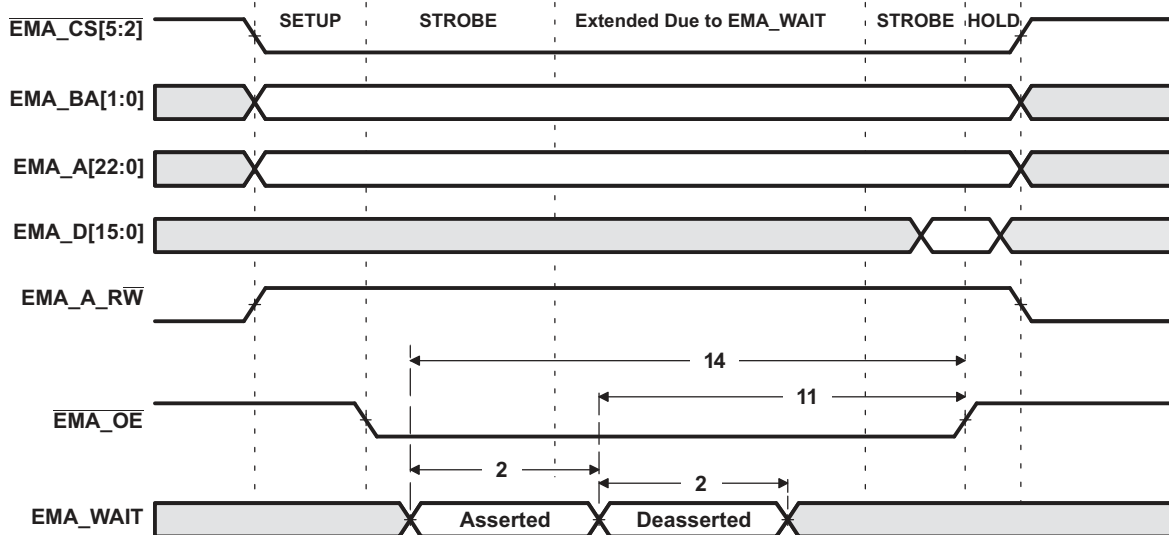
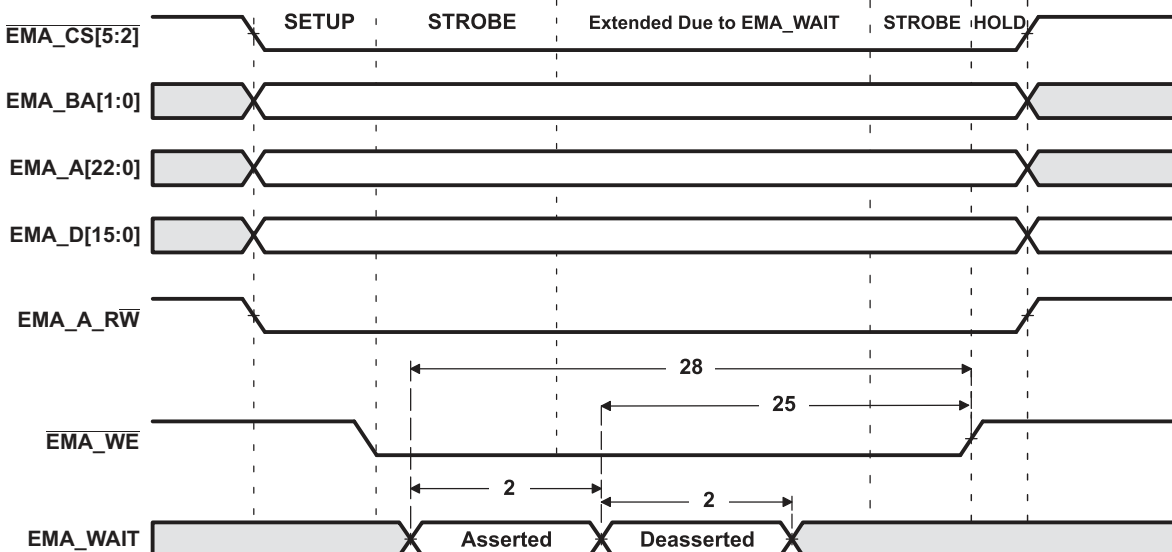

Figure 6-16. EMA\_WAIT Read Timing Requirements
Figure 6-17. EMA\_WAIT Write Timing Requirements
(1) E = EMA\_CLK period or in ns. EMA\_CLK is selected either as SYSCLK3 or the PLL0 output clock divided by 4.5. As an example, when SYSCLK3 is selected and set to 100MHz, E=10ns
(2) Setup before end of STROBE phase (if no extended wait states are inserted) by which EM\_WAIT must be asserted to add extended wait states. Figure 6-16 and Figure 6-17 describe EMIF transactions that include extended wait states inserted during the STROBE phase. However, cycles inserted as part of this extended wait period should not be counted; the 4E requirement is to the start of where the HOLD phase would begin if there were no extended wait cycles.